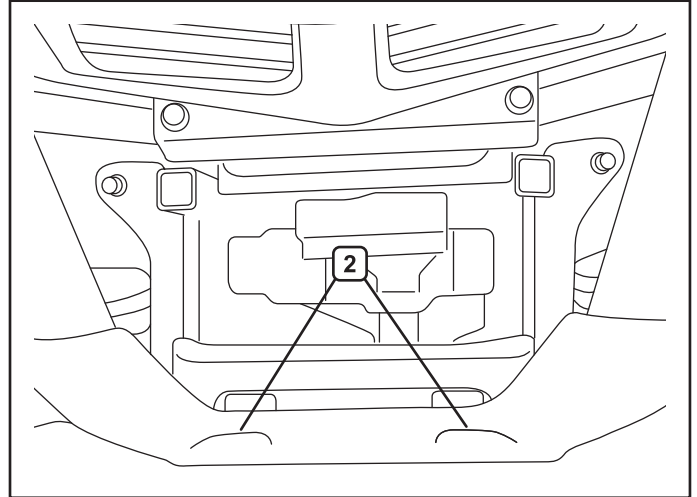

Figure 2. Plastic bumper cover removal – Viking
**Viking:** Remove four bolts (2) to remove plastic bumper cover. See figures 2 and 3.